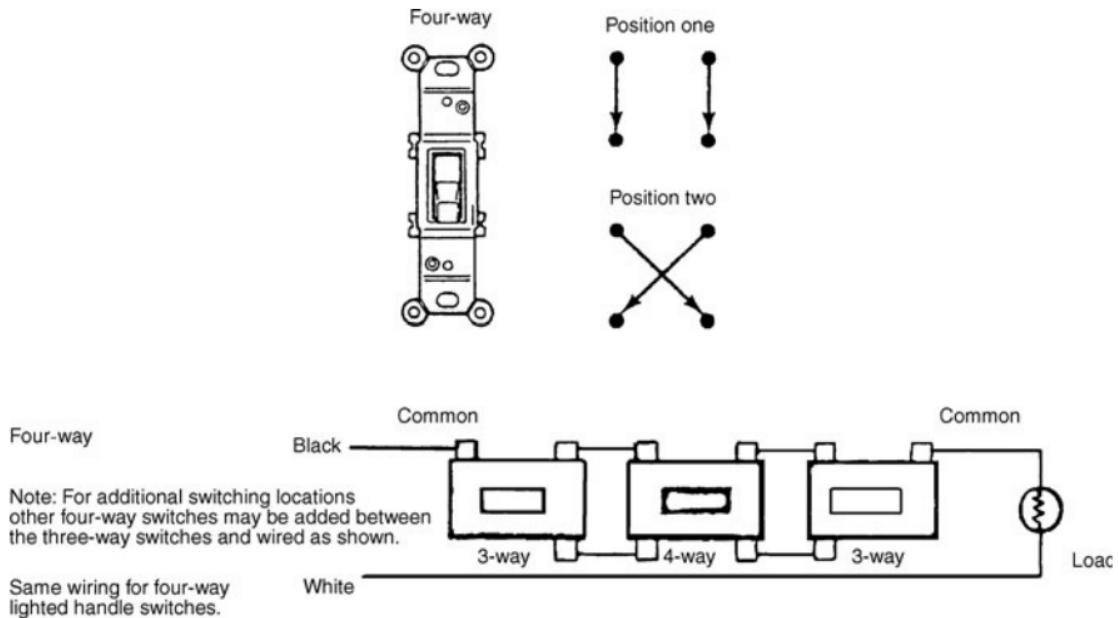

FIGURE 8-34. Four-way switches.
*Four-way switches* have four screws. It takes two three-way switches with one four-way to be able to operate a device from three locations. If more than three locations are needed, it still takes two three-way switches plus whatever number of four-way switches are needed after that. See Figure 8-34.